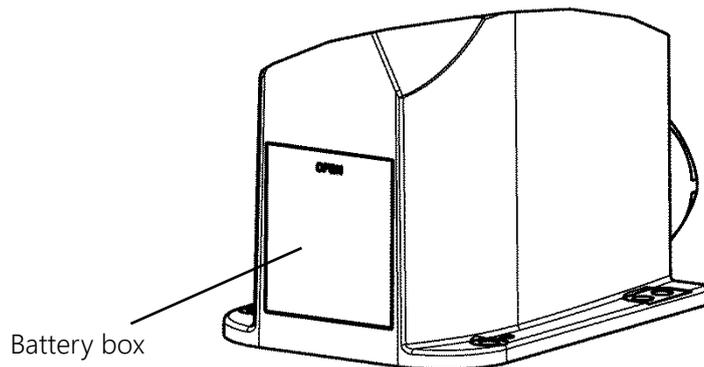

Fig. 8.3 Location of the Battery Box
- 4) Remove the cover of the battery box (see Fig. 8.3 Location of Battery Box). Put the terminals of a tester as shown in the following picture to measure voltage, and make sure that the voltage is about 4.5 V. If the voltage is low, it may be caused by a poor fit. Remove the batteries, wipe the metal battery contact of the battery box with waste cloth, and then fit the batteries again. Measure the voltage again using a tester, and if the voltage is about 4.5 V, take step 3) again. At this time, take care not to remove the connector.